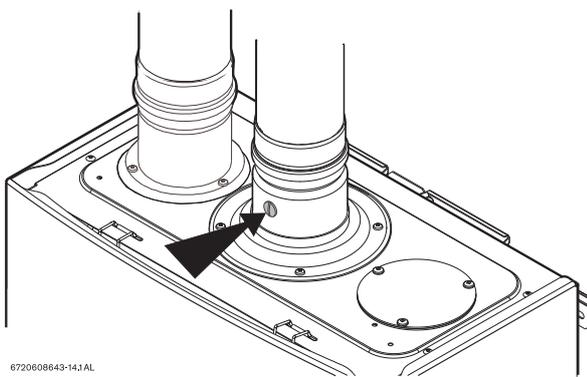

Fig. 60 Measuring port
- ▶ Remove brass flat head screw on the exhaust collar as seen in Fig. 60.